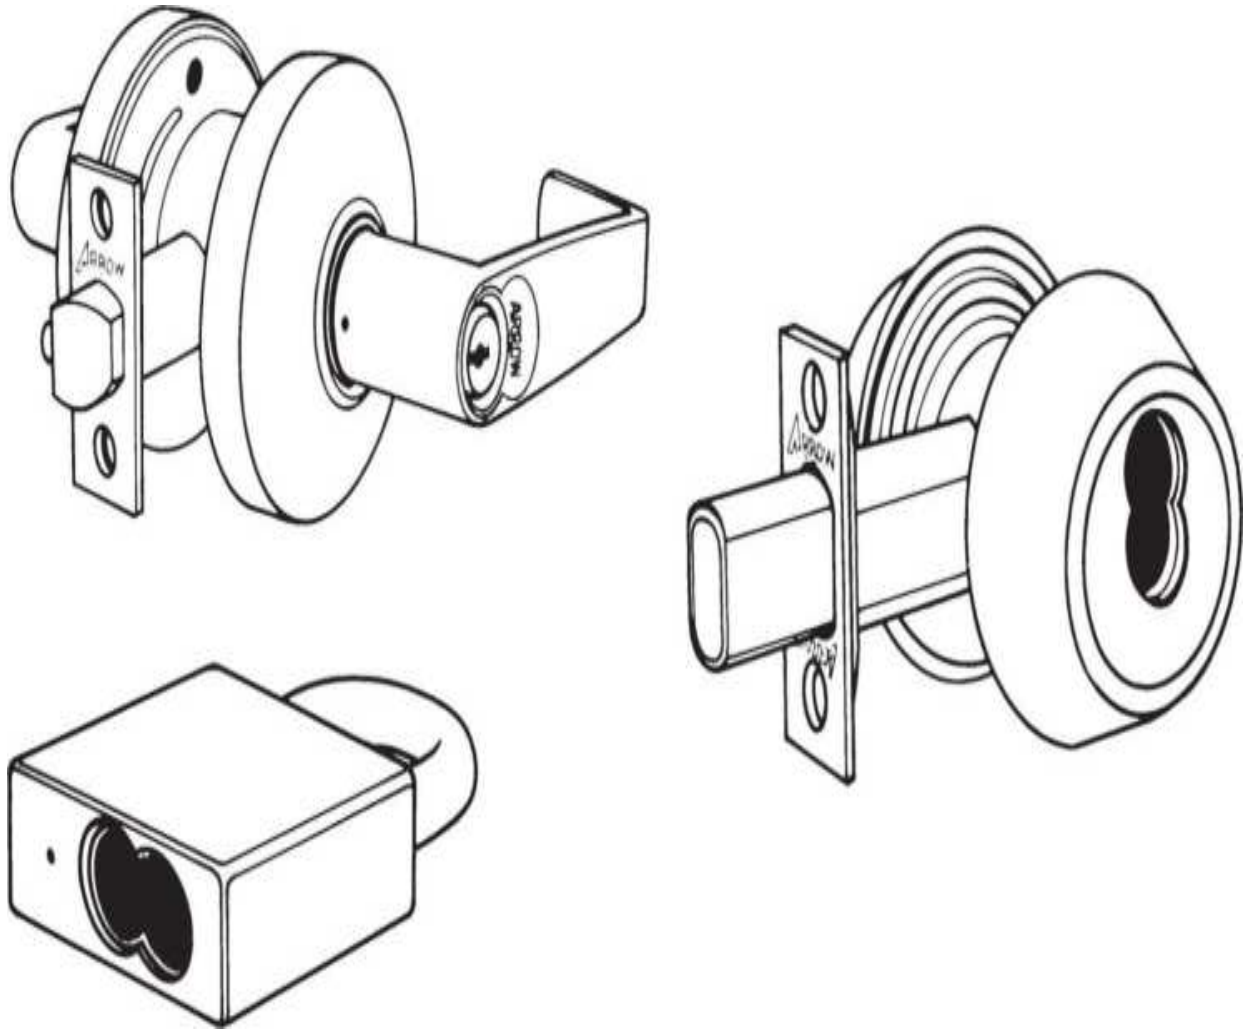

**Figure 3.11** Types of IC locks. (*Arrow Lock Company* )
Another type of pin tumbler system is found in *interchangeable core* (IC) locks. Although they come in the form of deadbolts, key-in-knobs, rim locks, mortise locks, padlocks, and desk and cabinet locks, all locks in an IC system can either use the same key or be masterkeyed. Some examples of IC locks are shown in Fig. 3.11 . The common feature of IC locks is a figure 8-shaped core that